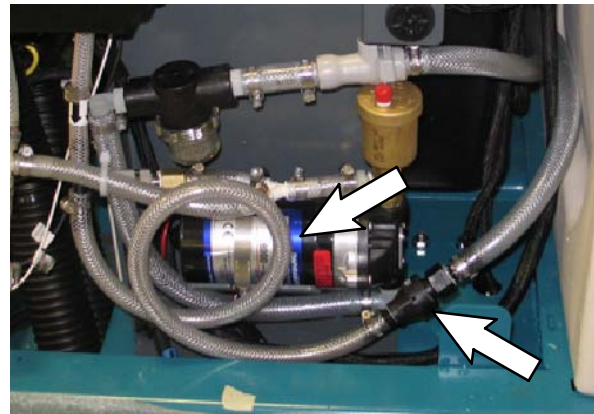

FIG. 17
29. Connect hose from the scrub head (DISP) to the *ec-H2O* assembly outlet hose. Refer to Fig. 17.
NOTE: Be sure the outlet hose from ec-H2O assembly is looped as shown in Fig. 17.